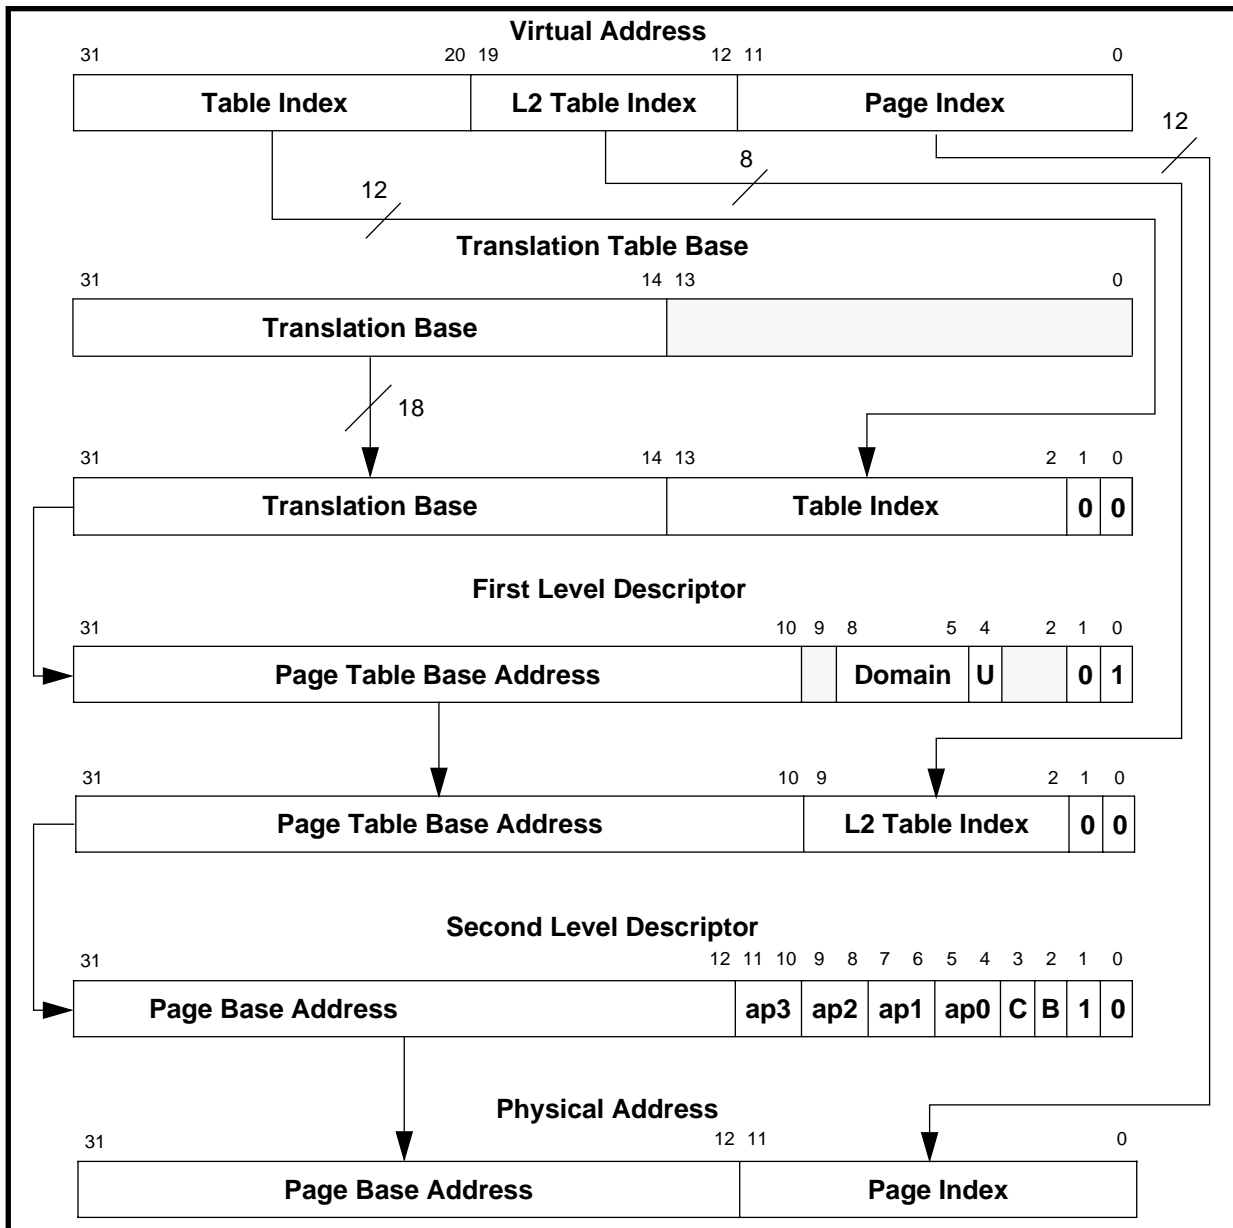
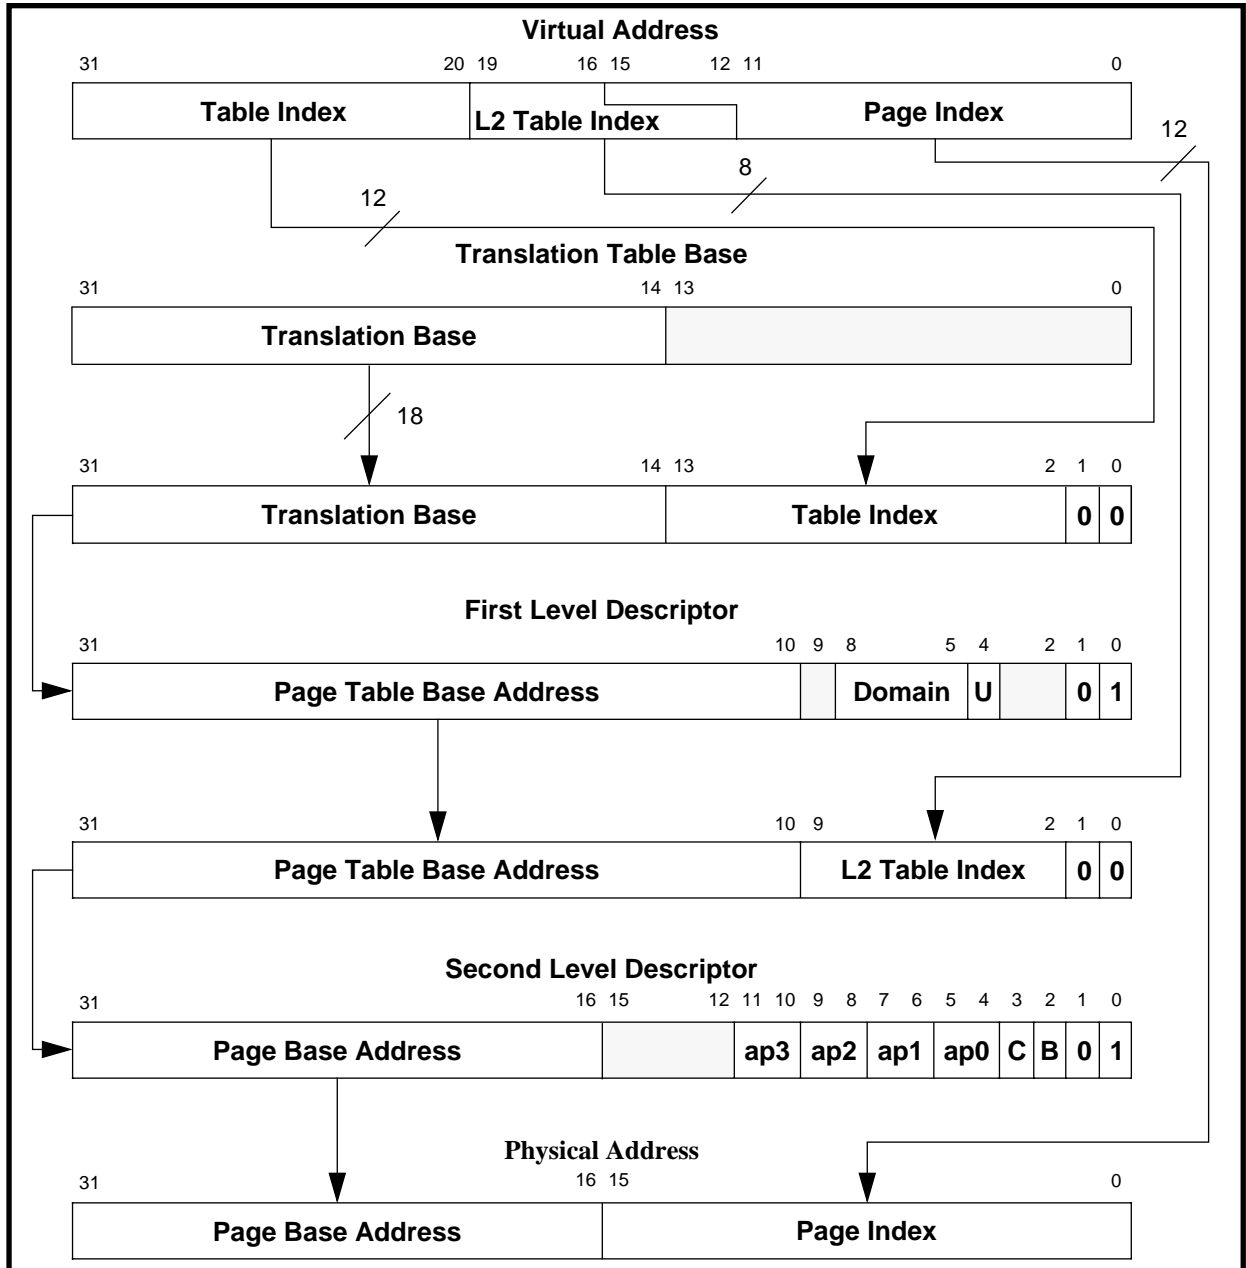

Figure 9-7: *Small page translation*
Figure 9-8: Large page translation
**Bits 31:10** form the base for referencing the Page Table Entry. (The page table index for the entry is derived from the virtual address as illustrated in Figure 9-7: Small page translation on page 9-10).
If the Level One fetch returns a Page Table Descriptor, this provides the base address of the page table to be used. The page table is then accessed as described in Figure 9-7: Small page translation on page 9-10, and a Page Table Entry, or Level Two Descriptor, is returned. This in turn may define either a Small Page or a Large Page access. The figure below shows the format of Level Two Descriptors.
**Bits 31:12** (small pages) or **bits 31:16** (large pages) are used to form the corresponding bits of the physical address - the physical page number. (The page index is derived from the virtual address as illustrated in Figure 9-7: Small page translation on page 9-10 and Figure 9-8: Large page translation on page 9-11).
Figure 9-7: *Small page translation* illustrates the complete translation sequence for a 4Kb Small Page. Page translation involves one additional step beyond that of a section translation: the Level One descriptor is the Page Table descriptor, and this is used to point to the Level Two descriptor, or Page Table Entry. (Note that the access permissions are now contained in the Level Two descriptor and must be checked before the physical address is generated. The sequence for checking access permissions is described later.)
Figure 9-8: Large page translation illustrates the complete translation sequence for a 64Kb Large Page. Note that since the upper four bits of the Page Index and low-order four bits of the Page Table index overlap, each Page Table Entry for a Large Page must be duplicated 16 times (in consecutive memory locations) in the Page Table.